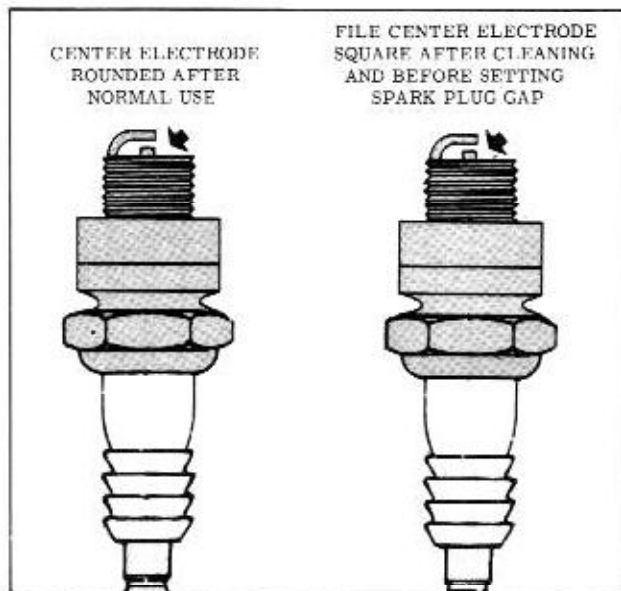

Fig. 13-50 Spark Plug Electrodes
1. The center electrode should be filed flat before setting the gap. (Fig. 13-50)
2. File the center electrode square as shown in Fig. 13-50.